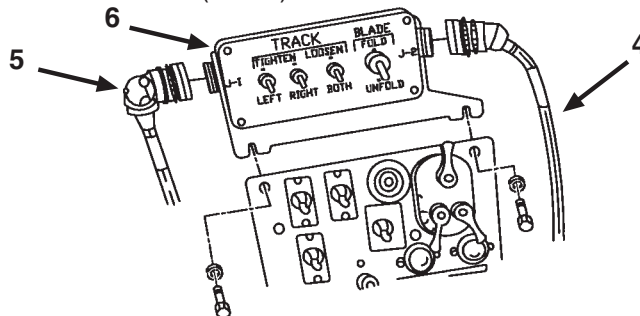

Figure 93. Manifold Wiring Harness Connectors.
Step 2 applies to Figure 93.
1. Remove manifold harness connectors (item 3) from solenoids at ports Z1, Z2, and Z4 on manifold (item 2).